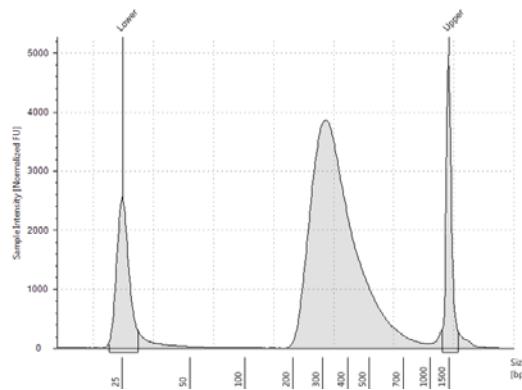
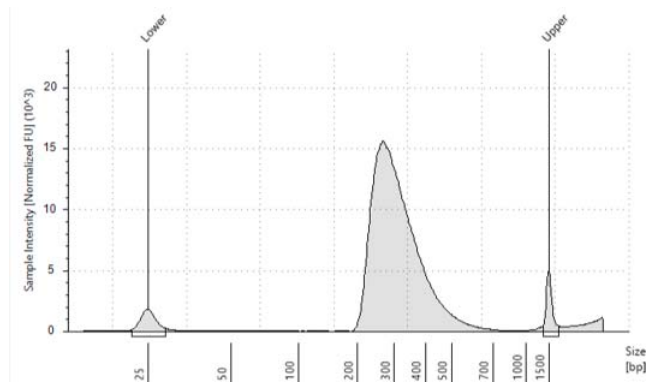
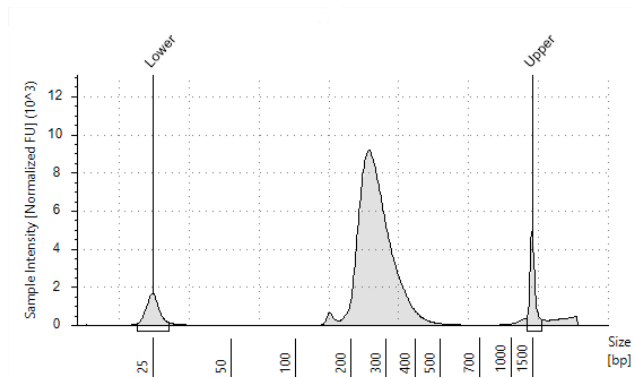

Figure 2 Pre-capture library prepared from a sheared high-quality gDNA sample analyzed using a D1000 ScreenTape assay.
Figure 3 Pre-capture library prepared from a typical FFPE gDNA sample (fragmented by shearing) analyzed using a D1000 ScreenTape assay.
Figure 4 Pre-capture library prepared from a low-quality FFPE gDNA sample (fragmented by shearing) analyzed using a D1000 ScreenTape assay.
- 4 Verify that the electropherogram shows the expected DNA fragment size peak position (see Table 26 for guidelines). Sample TapeStation system electropherograms are shown for libraries prepared from sheared DNA designed for 2 \times 100 bp reads in Figure 2 (high-quality DNA), Figure 3 (medium-quality FFPE DNA), and Figure 4 (low-quality FFPE DNA).
Observation of a low molecular weight peak, in addition to the expected library fragment peak, indicates the presence of adaptor-dimers in the library. It is acceptable to proceed to target enrichment with library samples for which adaptor-dimers are observed in the electropherogram at low abundance, similar to that seen in the example electropherogram in Figure 4. See Troubleshooting on page 100 for additional considerations.